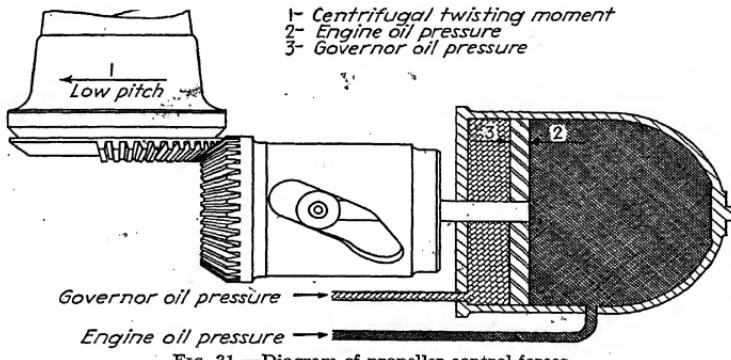

Fig. 31.—Diagram of propeller-control forces.
Three fundamental forces are used to control the blade angle. They are (1) centrifugal twisting moment of the blades toward low pitch which is utilized to decrease the blade angle; (2) engine oil under normal engine pressure which supplements the centrifugal moment, thus ensuring adequate control force toward low pitch at low propeller speeds; (3) engine oil under boosted pressure from the governor which moves the blades toward high pitch. These forces are indicated in Fig. 31.